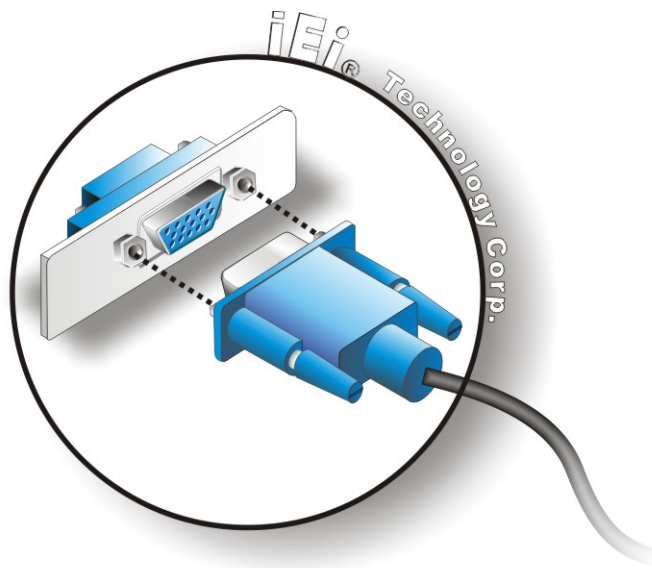

Figure 4-14: VGA Connector
- Step 3:** Insert the VGA connector. Once the connectors are properly aligned with the insert the male connector from the VGA screen into the female connector on the uIBX-200-R21/VX800. See Figure 4-14.